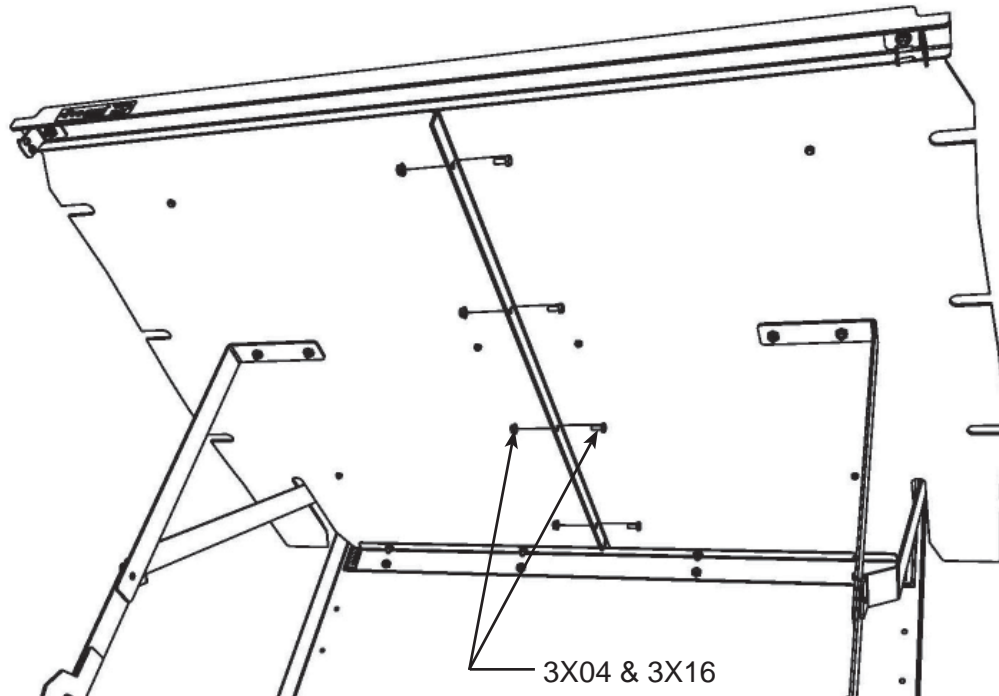

Fig. 5
B. At cover underside, fasten the two cover halves at thru center flanges using 1/4-20 x 5/8" hex head bolt (3X04) and nut (3X16). (Fig. 5) Fasten all remaining panel and bracket locations at top panel surface using 1/4-20 x 5/8" phillips truss head screws (3X03).